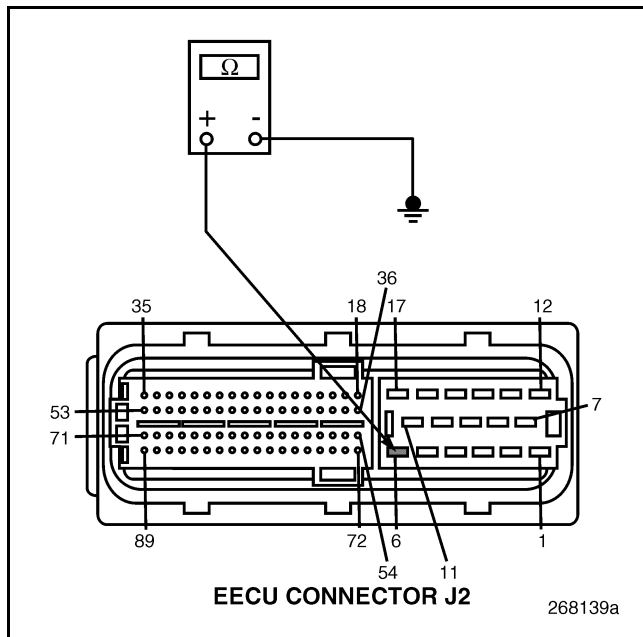

Figure 732
4. Check for continuity between EECU harness connector J2, pin 6 and a good ground (see Figure 732).